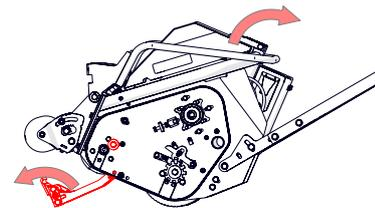

Fig.12J - Remove shear blade assembly
10. Tip the machine back to gain access to the underside. Remove the shear blade carrier (Fig. 12J).